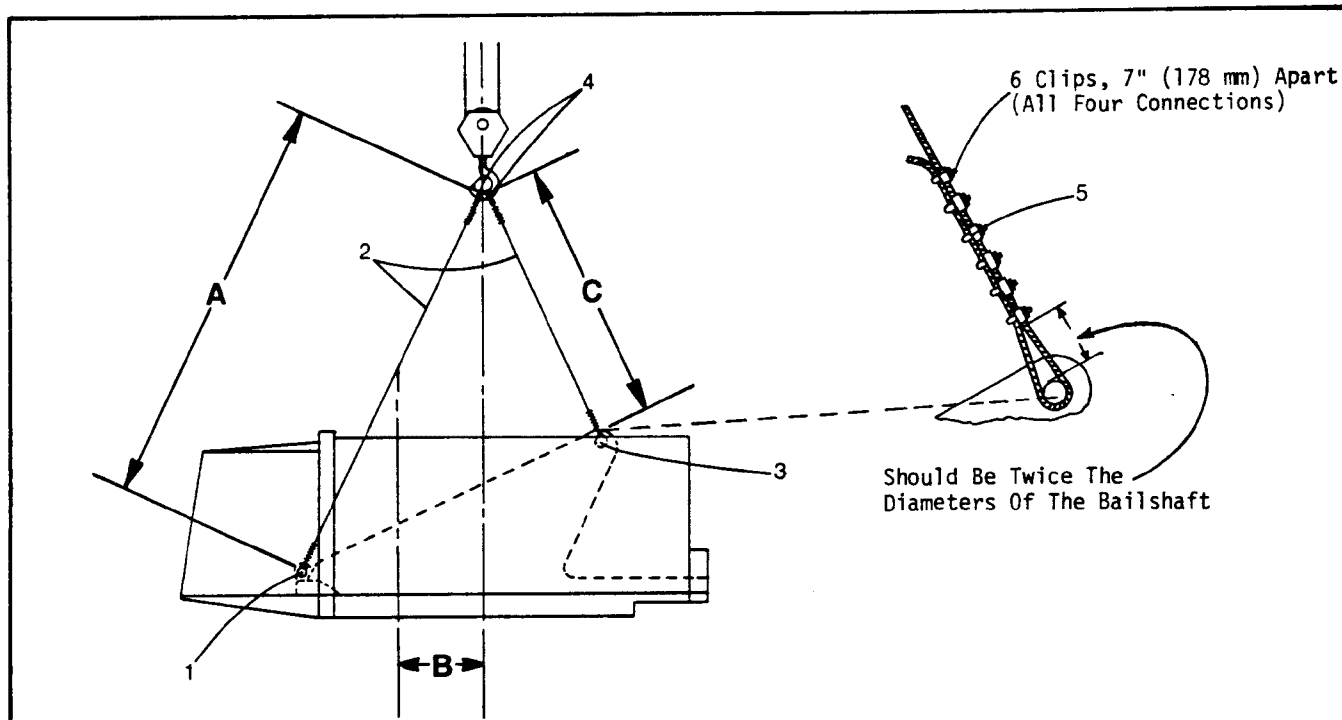

Fig. 1
- (b) Attach slings to upper. (See Fig. 1). Connect one leg to each boom foot pin, and one leg to each end of the extended boom hoist bail shaft. (Where the boom backstops mount.) Install keeper pins or cotter pins in the boom foot pins to prevent their working out. Install a large washer, or a plate with a flame cut hole in the center over the bail shaft to prevent sling slipping off. Install a cotter pin or capscrew and locknut in the hole at each end of bail shaft to retain the washer or plate.